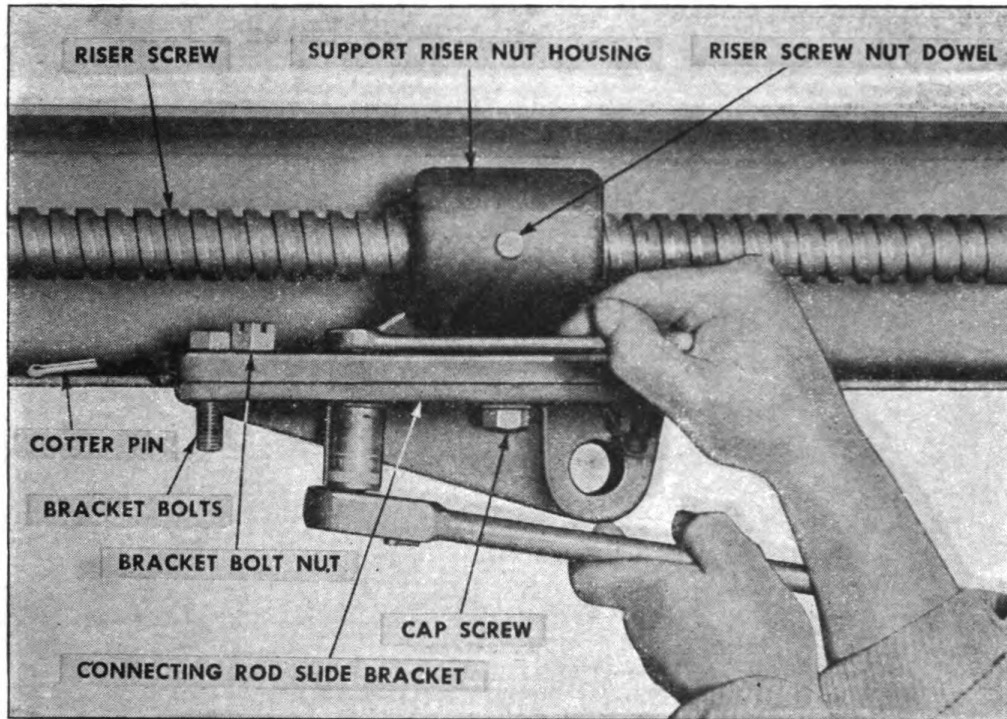

FIGURE 76. REMOVING SUPPORT SLIDE BRACKET.
c. Remove three drilled bolts and one cap screw holding connecting rod slide bracket to riser nut housing (Fig. 76).